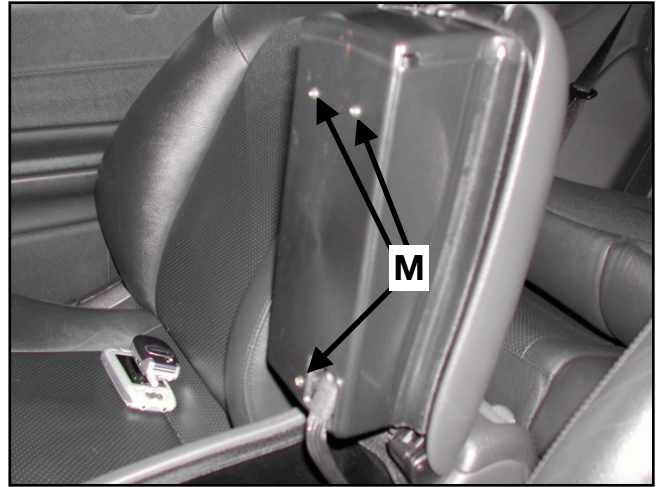

Figure 7
2. Remove three screws from the bottom of the compartment cover (M, Figure 7).